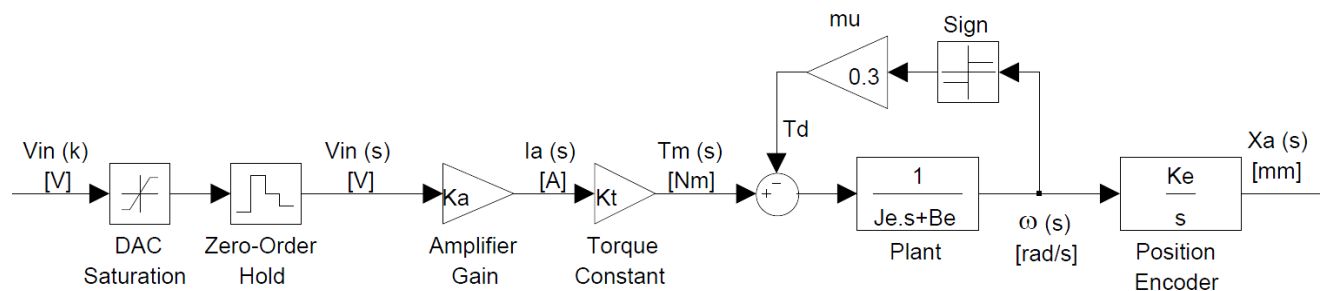

Figure 1 : Open loop Block Diagram of Ball Screw Feed Drive System
- 1. Discrete Transfer Function Derivation:** The first step in designing a digital controller for the drive is to convert the open loop transfer function identified in Lab1 from continuous domain (s-domain) to discrete domain (z-domain). Based on the model identification carried out in the first project, the block diagram of the open position loop is depicted in Figure 1. Manually obtain the zero-order hold equivalent of the open loop transfer function ($G_{ol}(z)$) in terms of system parameters. Plug in the parameter values in the final result, and compare your result with the zero order hold transfer function obtained by Matlab's `c2d` command. Ignore the Coulomb friction and saturation blocks.
Obtain the discrete time state space model of the machine shown in Figure 1. Simulate the step response of the system using the discrete state space model of the machine given in Figure 1. Compare the results obtained from discrete transfer function and state space models.
Based on the block diagram in Figure 1, create a Simulink model for the closed-loop system with P-Controller by including zero order hold. Include the Coulomb friction and Saturation blocks. Use the Coulomb friction model derived in Lab 1 with $\mu_k = 0.3$ [Nm]. The limits for the Saturation block are ± 3 [A]. Obtain the step response of the closed loop digital control system with and without the friction model. Comment on the effect of Coulomb friction on the overshoot, rise time, and settling time of step response. How does the saturation block affect the overshoot, rise time, and settling time? (Try different values of saturation limit between 0.5-3 [A])